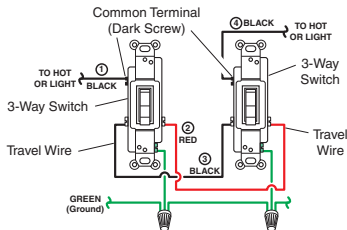
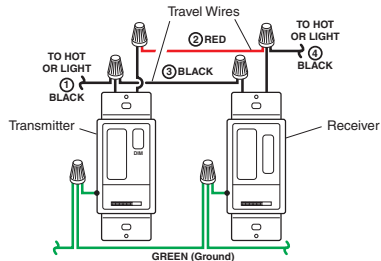

Figure 1 - Typical 3-Way Wiring
Figure 2 - Wiring 3-Way Wall Switch
- Remove the existing wall plate and switch. Label the wires on the existing switch according to the diagram in Figure 1. *Note:* Typical 3-way wiring is shown. Actual wiring and wire colors may vary.
- Connect the wires of the 3-way wall switch transmitter to the wires in the junction box as shown in Figure 2. Use the supplied wire connectors to secure the wires (see Figure 2). *Note:* Either black wire on the transmitter can be used to connect to the hot wire (light) or traveler wire.
IMPORTANT: Label wires on existing 3-way switch according to the diagram in Figure 1. Refer to Figure 2 below when connecting wall switch receiver wires to existing wires.